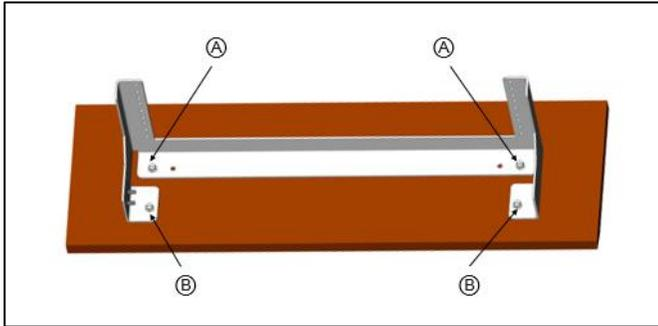

Figure 2. Mounting on backboard
- ① Select an appropriate location to install the WMB-3U ensuring adequate area for the equipment to be placed on the rack. Mounting to a 3/4" thick backboard with the included hardware ensures that the combined weight of the WMB-3U and equipment can be supported.
- ② Determine the desired orientation.
- ③ Using the WMB-3 as a template or using a tape measure mark two in-line points 18" apart for either horizontal or vertical orientation. Drill two 5/32" pilot holes.
- ④ Hold the back of the bracket firmly against the mounting surface mating the pilot holes with the locations marked as A in Figure 2. Install two of the included 1" wood screws.
- ⑤ Drill two additional 5/32" pilot holes at locations marked as B in Figure 2 and install the remaining two 1" wood screws.